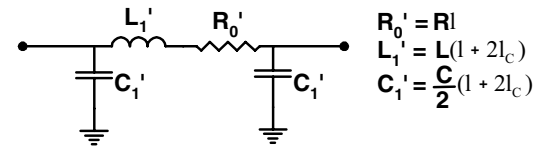

Figure 13b: Equivalent circuit of chipresistor
The equivalent circuit then becomes that shown in **Figure 13b**. (We neglect, as earlier,  $G$  compared to  $\omega C$ .) Note that the circuit contains both inductance and capacitance parasitics, though most vendors electrically characterize a chip resistor only by the latter.  $C_1'$  is then given by half the value calculated in (14), while  $L_1'$  is given by